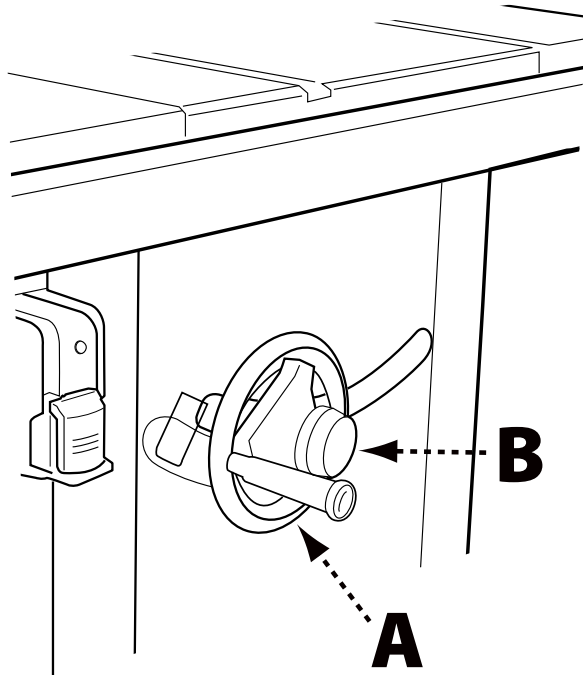

FIGURE 15
Raise or lower the blade with the hand wheel (A) located on the front of the saw (fig 15).
1. Before raising or lowering the blade, be sure to loosen the lock knob (B) by turning it counterclockwise.
The riving knife thickness (A) must be greater than the blade body or plate thickness (B) and less than the kerf or cutting width (C) as shown in Figure 15. The riving knife provided with this saw is 2.2mm thick and may be used only with a 10-inch (254mm) blade with 0.102-inch (2.6mm) minimum kerf width and 0.073-inch (1.8mm) maximum body thickness. Do not attempt to